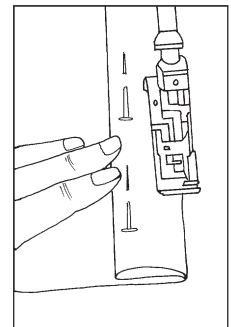

Fig. 24-7
3. Flatlock over the second folded edge, *without trimming any fabric*. (Fig. 24-7) If you can turn the serger knife to a noncutting position, this is a good place to do so. Be sure to catch the raw hem edge in your stitching.